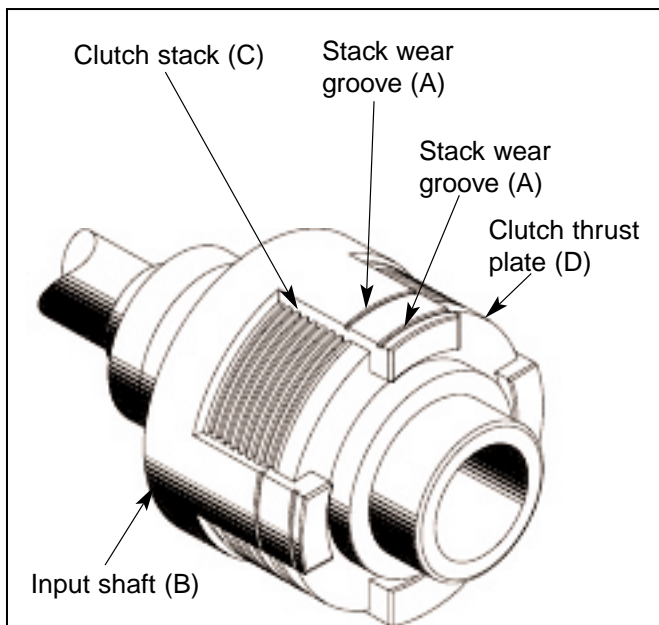

Figure 11.2 STACK WEAR GROOVES.
Two "stack wear" grooves (A) have been machined in the input shaft (B) lugs to facilitate this visual check (see figure 11.2).
3. Using a flashlight, observe the clutch stack (C) through the inspection port (see figure 11.2).
If the rear surface of the clutch thrust plate (D) has moved up to or past the "stack wear" groove (A), the clutch stack needs to be replaced (see figure 11.2).